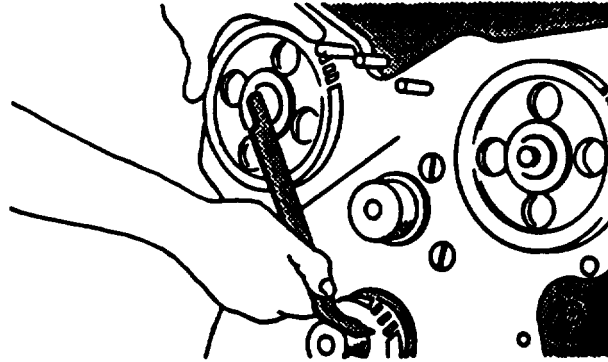

FIGURE 3-133. Aligning Timing Mark and Camshaft Gear
- (1) With timing tool (JD-254) resting on nose of crankshaft, turn camshaft (3) until timing mark aligns with center of camshaft gear (5), refer to FIGURE 3-133.
- (2) Check injection pump gear timing with timing tool (JD-254). Timing mark with 6" beside it, must align with center of injection pump gear.